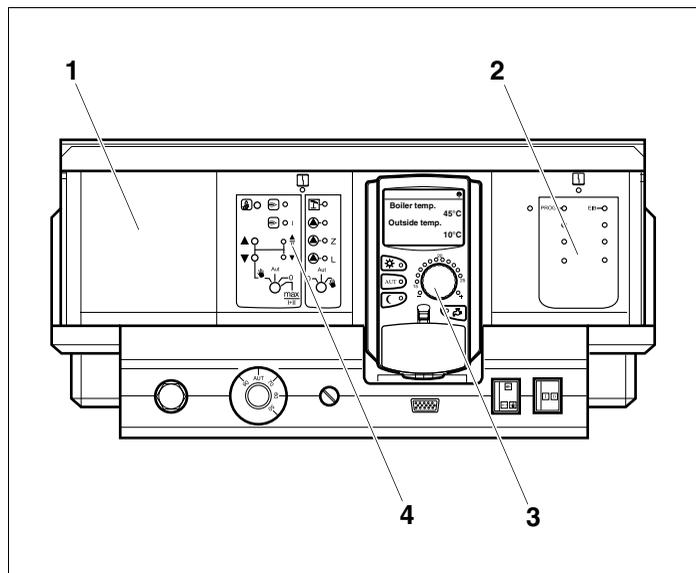

Fig. 4 Function module FM 446 inside the Logamatic 4211 control device
Slot B (Fig. 4, **item 3**) is located behind the MEC 2 programming unit and contains the controller and the power supply module (CM, NM).